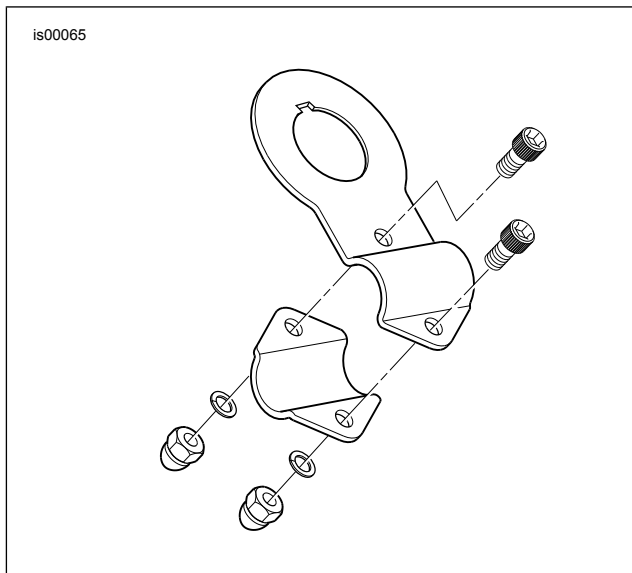

Figure 3. Handlebar Clamp Style Bracket (FLSTS, FXSTS)
1. See Figure 3 . Between the handlebar risers, clamp the handlebar between the clamp plate and the gauge mount.